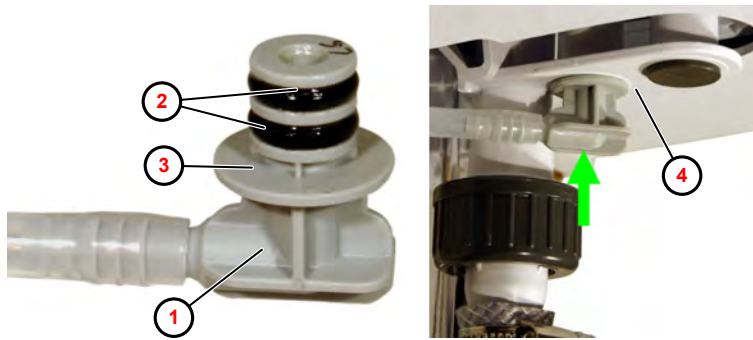

Fig. 15: Removing the connection adapter
1. ➤ Remove O-rings ( Fig. 15 , ② ) from the connection adapter ① .
2. ➤ Clean the O-ring ③ seat by hand.
5. ➤ Insert the connection adapter as far as it will go until it is flush with the funnel housing ④ .